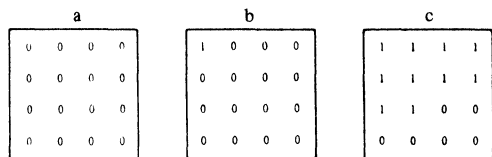

Figure 1 Addressing method of for 16 bit memory in the Marching pattern
- (1) Clear all bits . . . . . See Fig. 1 (a)
- (2) Read "0" from 0th address and check that the read data is "0". Hereafter, "Read" means "checking and judging data"
- (3) Write "1" on 0th address. . . . . See Fig. 1(b)
- (4) Read "0" from 1st address.
- (5) Write "1" on 1st address.
- (6) Read "0" from nth address.
- (7) Write "1" on nth address . . . . . See Fig. 1(c)
- (8) Repeat (6) to (7) to the last address. Finally, all data will be "1".
- (9) After all data become "1", repeat from (2) to (8) replacing "0" and "1".